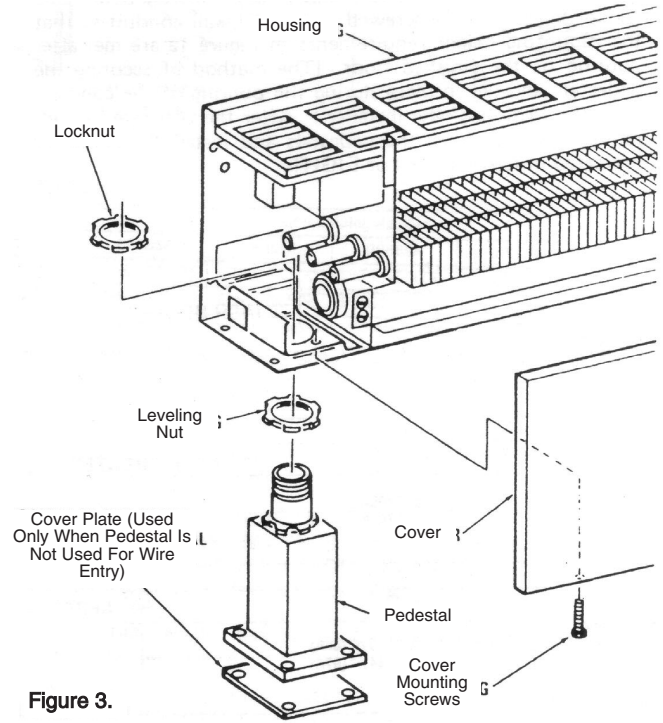

Figure 3.
**Note:** When pedestal is not used for wire entry, pedestal base must be covered with cover plate (supplied with pedestal). See Figure 3.
1. Remove front cover by removing mounting screws (Fig. 3)
6. Replace front cover and secure with mounting screws. (See Figure 3.)
1. Remove front cover by removing mounting screws (Figure 3.)
6. Replace front covers, and secure with mounting screws. (Figure 3.)